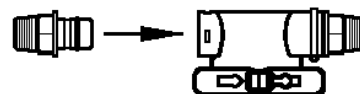
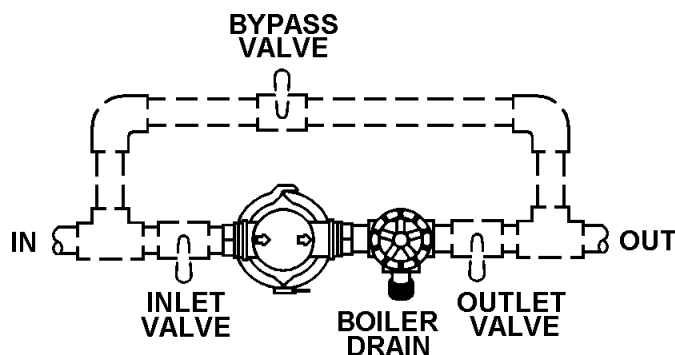

Figure 2. FLOW CONTROL INSTALLATION
Figure 3. RECOMMENDED PLUMBING PROCEDURE
- (2) Shut off all water at main supply. On a PRIVATE WELL SYSTEM, turn off power to pump and drain pressure tank. Make certain pressure is relieved from complete system by opening nearest faucet to drain system. SHUT OFF FUEL SUPPLY TO HOT WATER HEATER.
- (3) A Flow Control has been provided with your unit. We recommend the Flow Control be installed to reduce or eliminate the possibility of a malfunction should the recommended flow rate be exceeded. To install the Flow Control, lubricate its o-ring with silicon grease and press it into the nipple (See Figure 2). Install quick connect nipples (packaged separately) into head. Be certain that nipple with Flow Control installed is connected to the Outlet of the unit. O-rings on nipples should be lubricated with silicone grease. Make sure nipples are fully inserted into head prior to installing quick connect clips.
- (4) Gently rock tank from side to side in order to make sure the gravel shipped inside the tank is spread across the bottom of the tank. Gravel may have shifted during shipping and handling.
- (5) Refer to diagram (Figure 3) for recommended plumbing procedure. Cut main supply line as required to fit plumbing to the inlet and outlet of neutralizer. Use thread tape on nipple threads, as most pipe thread pastes will cause deterioration of plastic fittings. Hold nipples with wrench while attaching plumbing. DO NOT OVERTIGHTEN. Be sure to install boiler drain (provided) on the outlet side of filter. A three valve bypass should be installed as shown.